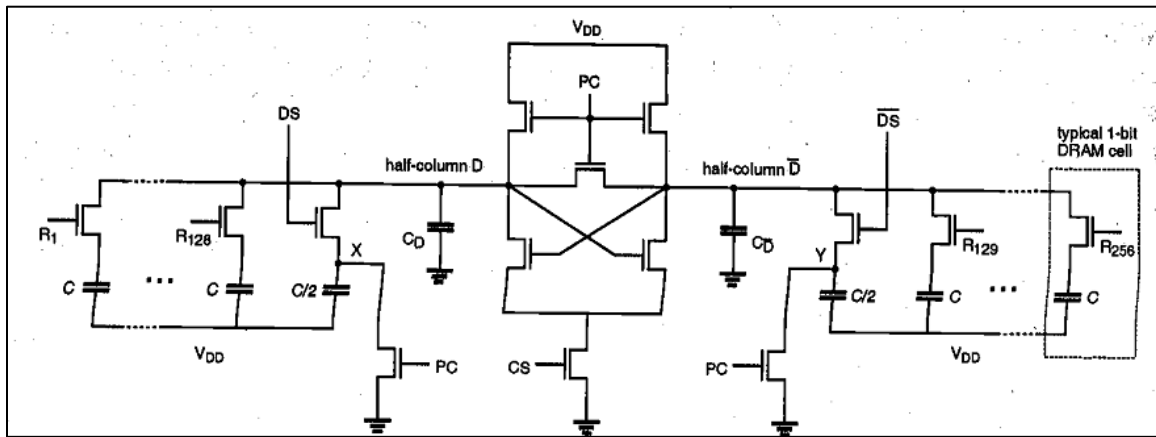
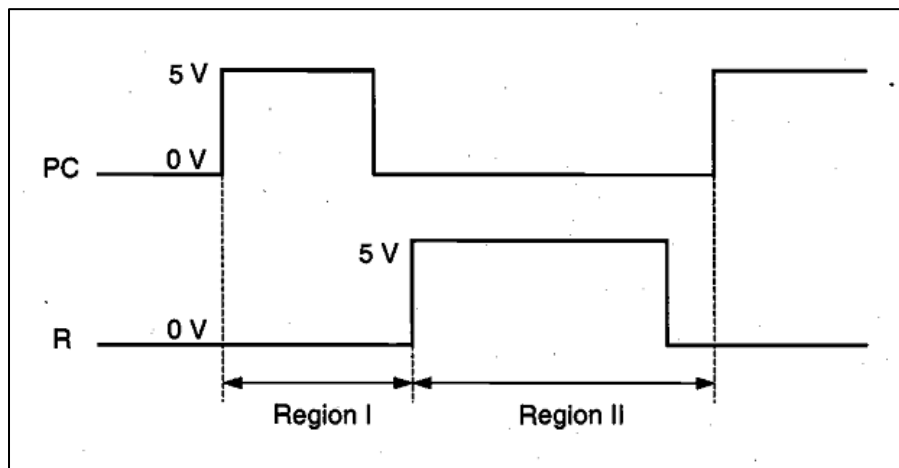

Figure 1
Figure 2
1) Consider the DRAM circuit shown in Figure 1 in the textbook. The threshold voltage of the two pre-charge transistors is 2 V. Calculate the steady state voltages of  $V_D$  in Region I and Region II of Figure 2 by assuming the following: